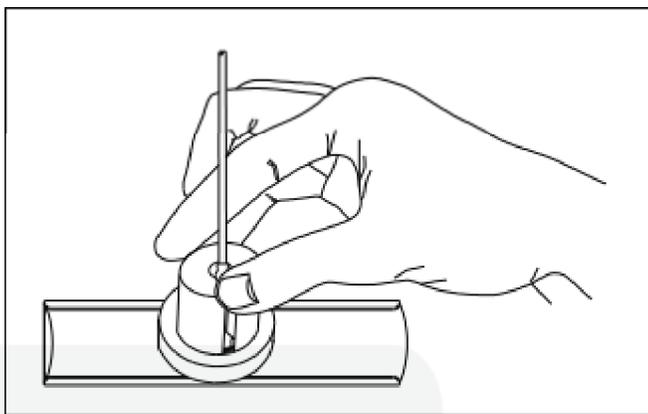

Figure 15: Hold the polishing fixture, not the connector nut. Do not allow the polishing tool to leave the track during grindings.
17. Place the polishing tool on the track and perform 7 strokes along the entire length of the track (See Figure 15). NOTE: Back and forth is considered two strokes. Using an alcohol wipe, dab the connector face to remove any abrasive particles before continuing to the next step. Replace the lapping film every 6 connectors.